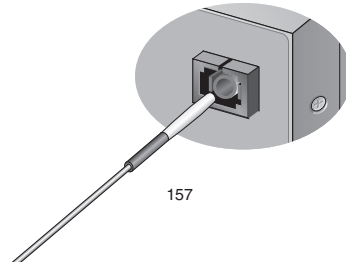

Figure 23. Cleaning a Recessed Ferrule
1. Insert the swab into the adapter as shown in Figure 23 and rub the ferrule tip with the swab.